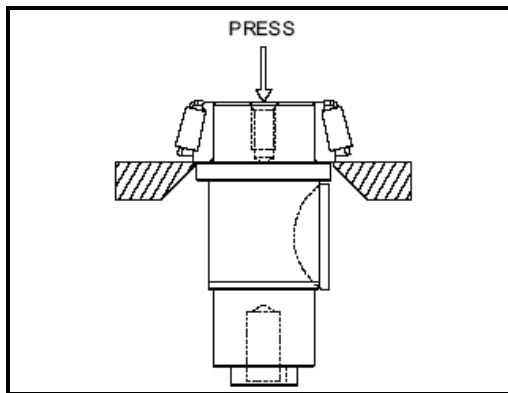

Figure 25
1. To remove the bearing cone assembly, support under the cone with a bearing separator and press to shaft through the cone. See **Figure 25**.